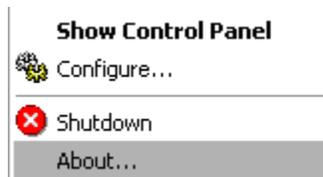

Figure 11 - Tool Tray Menu
2. The **Tool Tray Menu** appears (Figure 11).